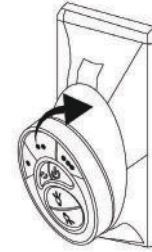

Fig. 24
**Step 1.** To place the transmitter in the wall plate, put the bottom end in first and then press the top into the wall plate. The transmitter is now held in the wall plate and will function from here. (Fig.24)